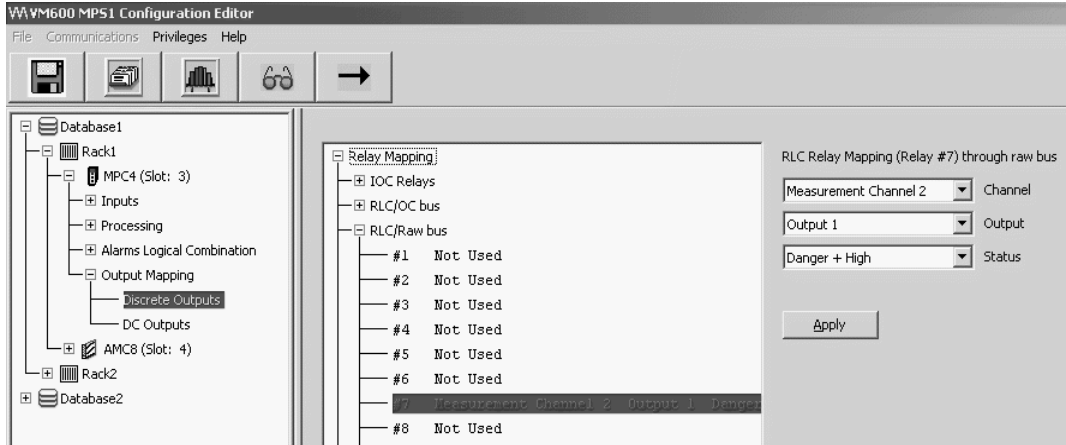

Figure 9-36: VM600 MPS software window to configure the Raw Bus
- 6- Using the VM600 MPSx software, select the **Discrete Outputs** node (a child of the **Output Mapping** node) in the tree structure (left). Then expand the **RLC/Raw bus** node in the main window (right) and select the relay in question (between 1 and 16). See Figure 9-36.
The user must then use the VM600 MPSx software to select Relay 7 from the 16 relays available in the **RLC/Raw bus** node. Then, the Danger+ alarm for Output 1 of Channel 2 can be assigned to this relay (see Figure 9-36).